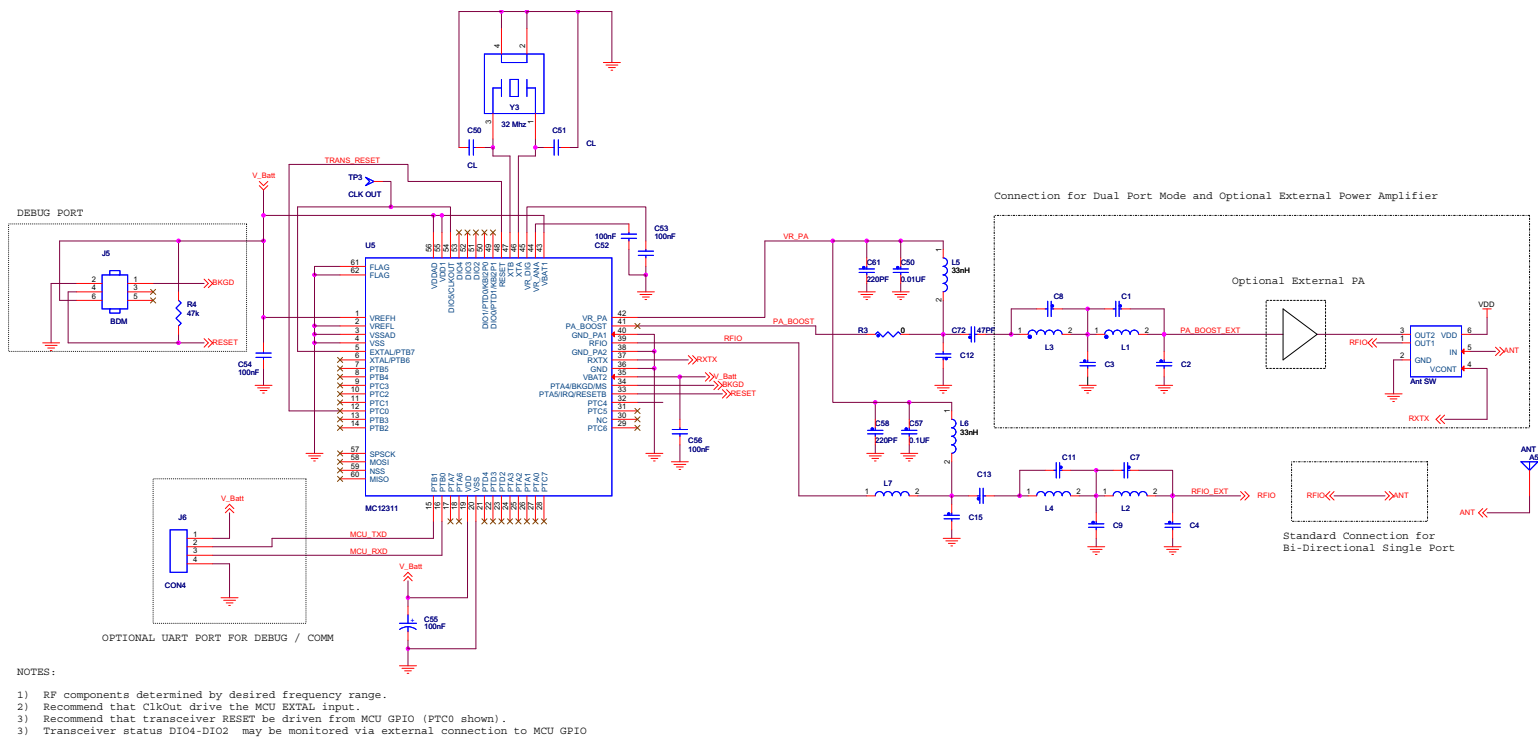

Figure 19. MC12311 Typical Application Circuit Options
Figure 19 show a MC12311 typical applications circuit with and without use of an external power amplifier (PA) (driven by the RF power boost feature). Note a number of circuit features:
4. Freescale also recommends that the transceiver RESET is driven by an MCU GPIO to provide total hardware control of the transceiver. Figure 19 shows GPIO PTC0 (preferred), but any GPIO can be used.
Two common RF wiring options are shown in Figure 19: